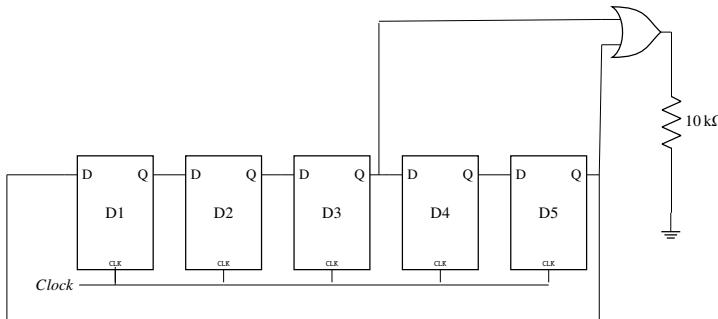

Fig. 5.23
23. Assume that all the digital gates in the circuit shown in Fig. 5.23 are ideal, the resistor $R=10k\Omega$ and the supply voltages is 5V. The D flip-flops D_1, D_2, D_3, D_4 and D_5 are initialized with logic values 0, 1, 0, 1, and 0, respectively. The clock has a 30% duty cycle. The average power dissipated in the resistor R is _____. (GATE EC 2016)